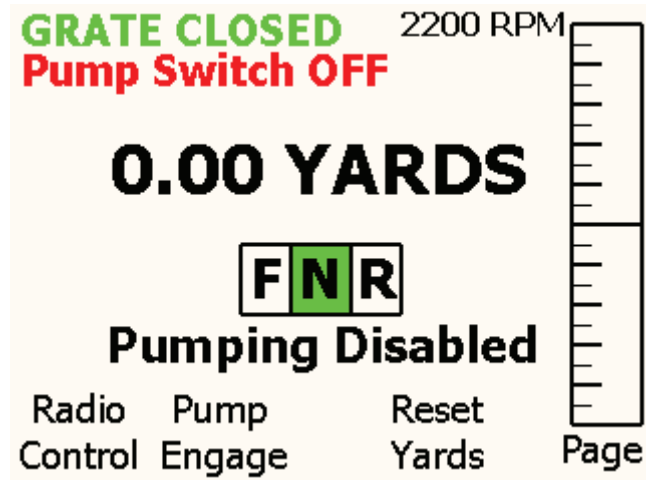

Figure 13 Digital Display
The wireless remote control system consists of a portable transmitter, receiver, antenna, and supporting equipment. The portable transmitter controls cylinder forward and reverse motion, cylinder speed, and includes an E-Stop button. A rechargeable NiMH battery powers the unit. A green blinking light on the remote indicates communication is occurring between the transmitter and receiver. For serial numbers HP2016001 through HP2018012 wireless remote controls only, if no controls are used on the remote for 25 minutes, the remote will shut off and need to be reset at the digital display (Figure 13) before continuing use.
2. Press Pump Engage button (Figure 13) on the machine display.
3. Press Radio Control button (Figure 13) on the machine display.
When the remote control E-Stop is pressed, it will only stop the pump. The engine will continue to run. The remote will remain inactive until it is reset at the digital display (Figure 13). If the hopper grate is opened while using the remote, the same reset procedure must be followed.